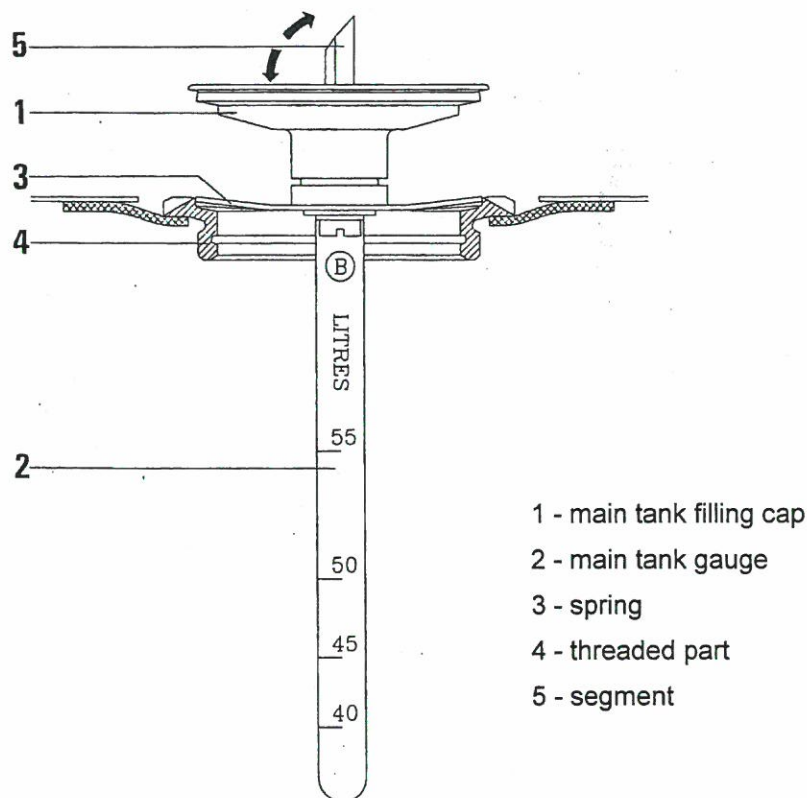

Fig. 8-2a - Main tank gauge
- b) When the auxiliary tanks are empty, fuel level in the main tank can be measured on ground using the gauge of main tank (Fig. 8-2a).